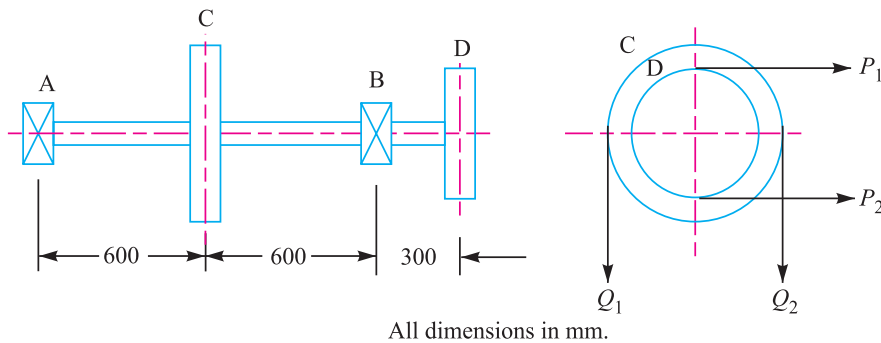

Fig. 14.18
12. A horizontal shaft AD supported in bearings at A and B and carrying pulleys at C and D is to transmit 75 kW at 500 r.p.m. from drive pulley D to off-take pulley C, as shown in Fig. 14.18.